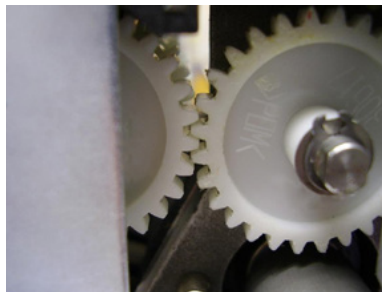
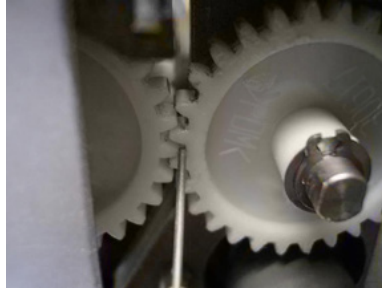

Figure 5 - Thread Feeder Gears
Figure 6 - Gage Pin
12. Adjust the thread feeder assembly so that the thread feeder gear meshes with the gear on the Color Change, Take-Up Feeder Housing Assembly. See Figure 5. The maximum gap between the gears should be no more than .032" [0.81mm]. Gage Pin (PN: 32996) should not go between the two gears. See Figure 6.